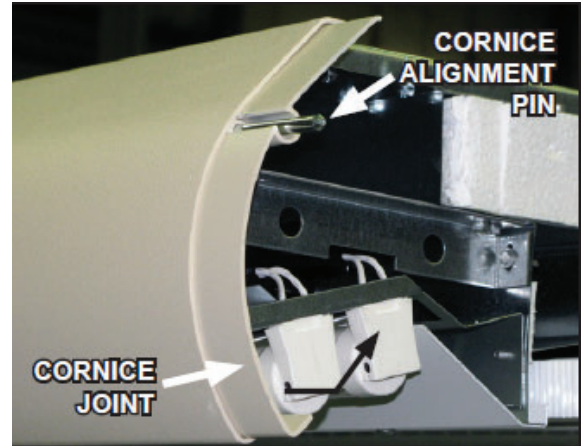

Fig. 4 Cornice joints
4. Tighten all cornice joints as needed (Fig. 4). Working outward from the center of the line-up, loosen the fasteners on the top and slide the cornices in one direction so that each joint aligns tightly together. Tighten the fasteners on top and apply an external joint band on the extreme ends of the lineup if a gap exists.